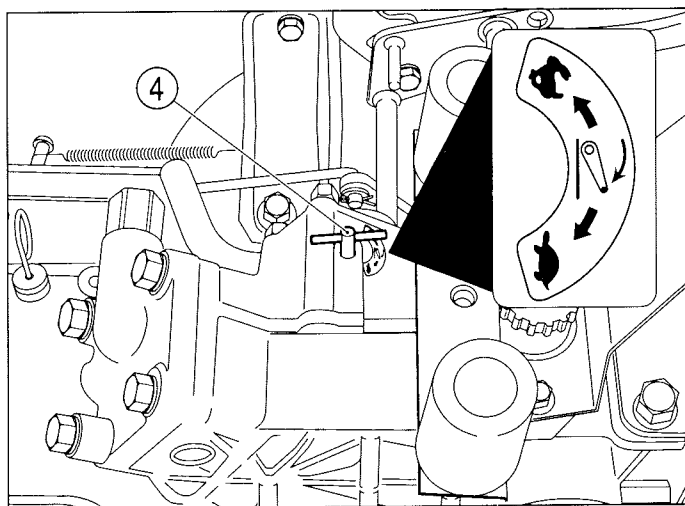

FIG. 65
FIG. 65: Lowering speed can be readjusted as necessary using the lowering rate control handle (4). Turning the handle fully clockwise will prevent links from lowering.